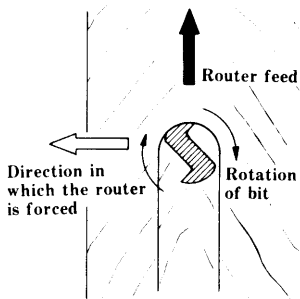

Fig. 21
(3) When the router is fed in the direction shown in Fig. 21, a certain force acts on the router that causes it to move in the ← direction. When operating, be sure to guide the router so that it is not moved in the ← direction.